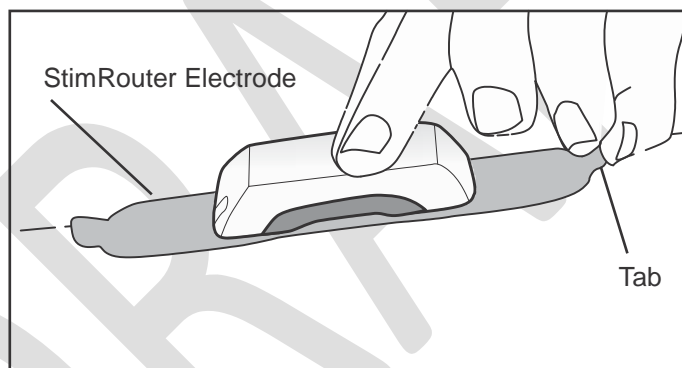

Figure 6-13. Removing the StimRouter electrode.
1. To remove the StimRouter electrode, make certain that stimulation is turned off. Then grasp the tab on the StimRouter electrode and gently pull away from the skin. See Figure 6-13.